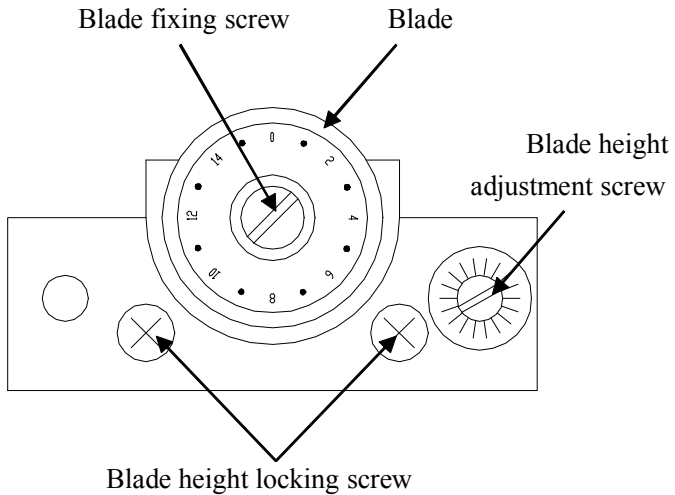

Figure H-2
H.3 Maintenance(Refer to FigureH-2)